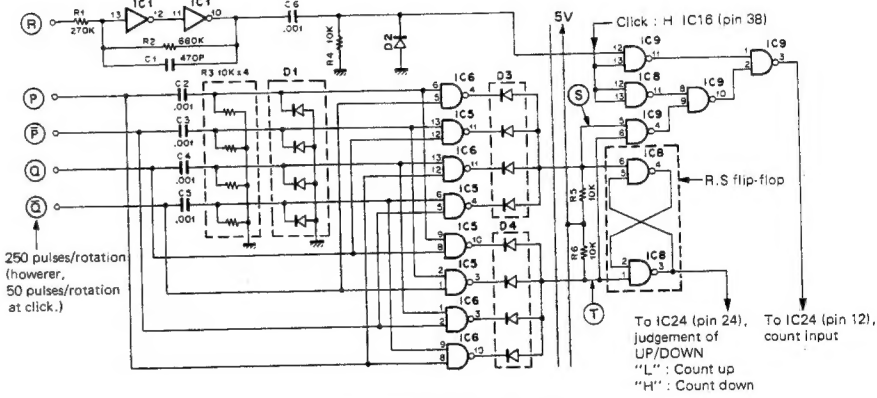

Fig. 13 Output waveform of main encoder
Fig. 12 shows the configuration of the encoder section. The control pulse of the main dial "click" detent mechanism is as shown in Fig. 13. When operating the [CH.Q], [CS], [VFO/M], [M=V], [SELECT], etc., keys, the CPU performs its associated process, judges whether or not the dial is detented, and inputs the status signal of the sensor (pin PS) to IC16 PCO (pin 14). For example, when the dial retent is activates, as when the dial is already detented when pin PS is "H", the process ends. However, when pin PS is "L", a 100msec pulse is emitted from PA3 IC16 pin 17, thereupon the plunger drive pulse (PN) is emitted through the switching operation of Q12 : DTC143T(S), Q13 : 2SC2459(Y) or Q14 : 2SA1307(Y).